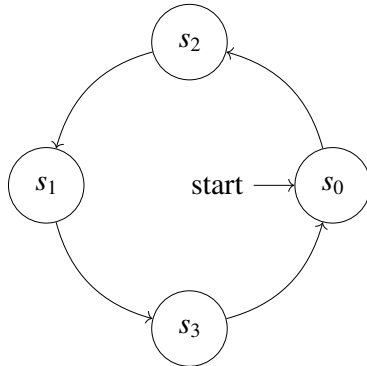

Fig. 1: FSM for the counter
1. Fig. 1 shows a *finite state machine* (FSM) diagram for the counter in Fig. 1.